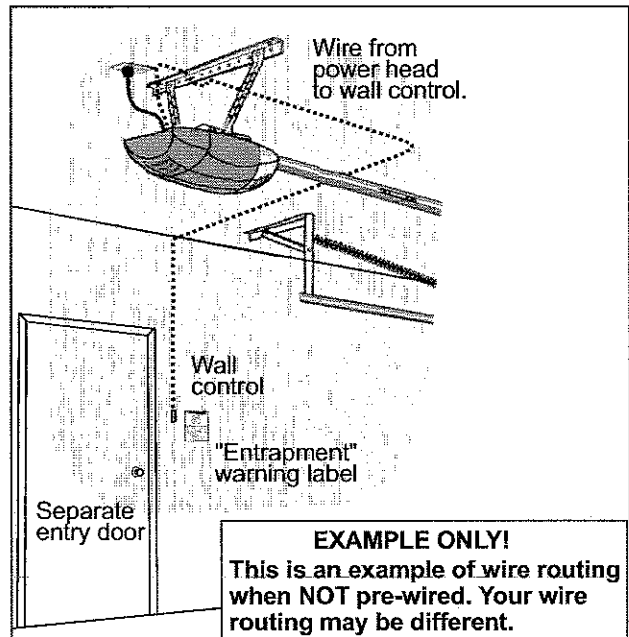

FIG.3-1 Wall control wire routing
- Locate wall control pre-wired wire ends (Fig. 3-1). (They should be located within the guidelines mentioned above.)
- Pick a convenient location for mounting wall control using the guidelines mentioned above. (Fig. 3-1)
- Run wire from wall control to power head (Fig. 3-1).